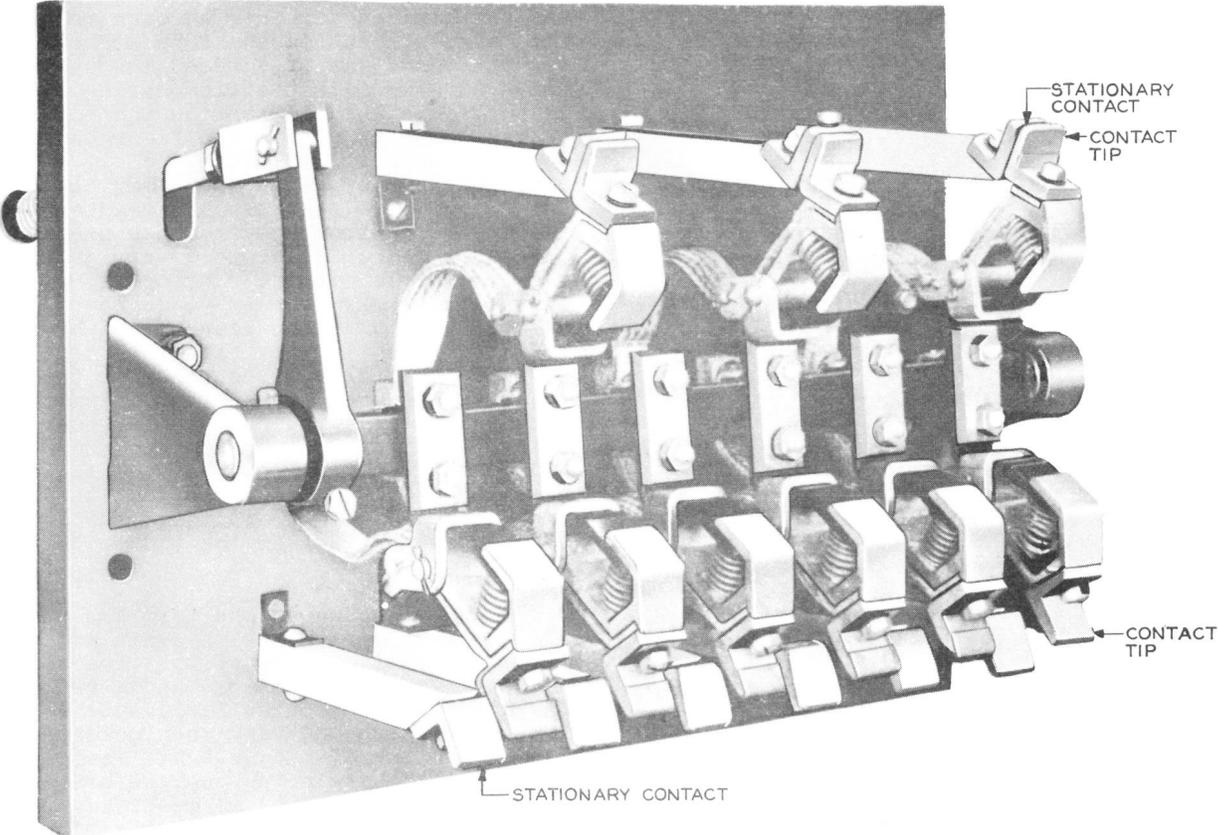

Fig. 15 - Contactor Mechanism on Form K33 and G150 Starters
8. To add new Fig. 15 for the contactor mechanism on form K33 and G150 starters.